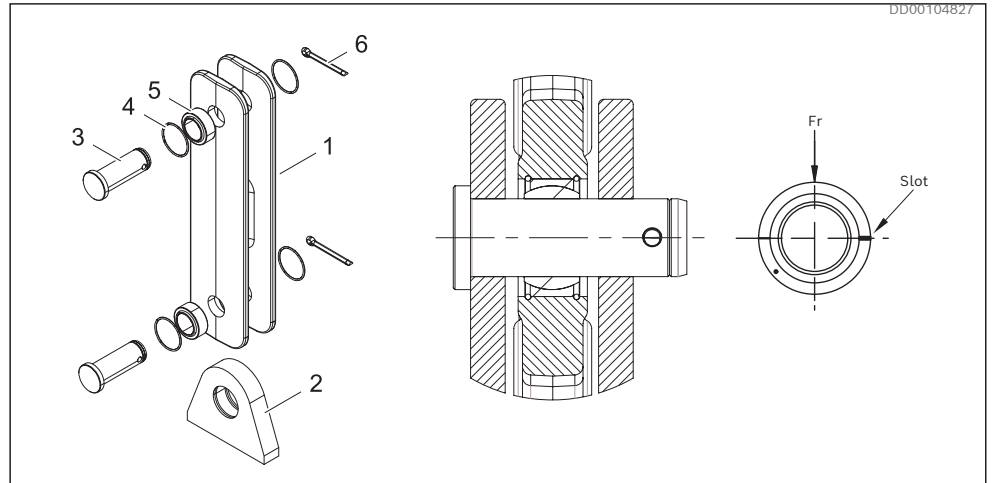

Fig. 16: Principle of articulated connection for TC A
- ▶ The articulated connection and the spherical plain bearing (1) must be dismantled during welding. See Fig. 16
- ▶ Steel: EN 10025-3 – S355N (1.0545), shall be protected against corrosion after welding (2).
1. The bearing (5) shall be mounted by using a mounting sleeve or tube applied on the bearing outer ring.
2. The bearing shall be mounted with the slot in the outer ring perpendicular towards the load direction. See Fig. 16
3. Lock the bearings with the circlips (4)
4. Assemble the rest of the components according to Fig. 16